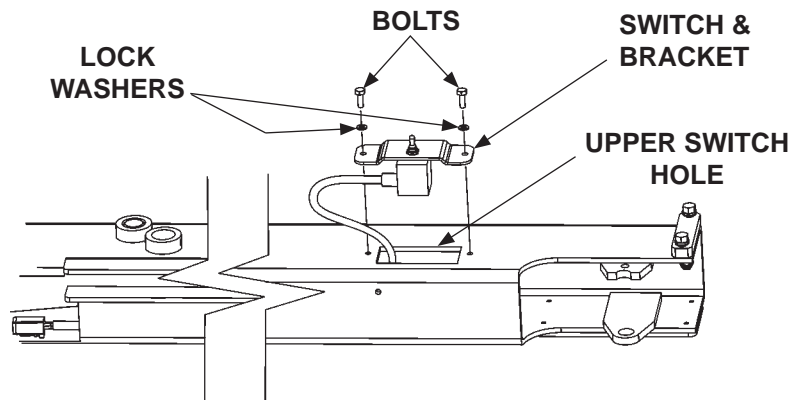

FIG. 29-1
17. If RH runner is being replaced, unbolt switch mounting bracket from runner by removing (2) bolts and (2) lock washers (**FIG. 29-1**). Pull runner switch, bracket, and cable from runner.
18. If RH runner is being replaced, reinstall runner switch, bracket, and cable in runner as follows. Make a wire fish by feeding 8 feet of small gauge wire through upper switch hole in runner (**FIG. 29-1**). Pull wire through channel at lower end of column. Leave enough wire at upper hole to attach to switch cable, and leave enough wire to pull at the lower end of runner. Tie upper end of wire fish to runner switch cable connector. Pull connector with cable through runner until connector exits lower end of column. Bolt switch mounting bracket to runner with (2) bolts and (2) lock washers (**FIG. 29-1**).